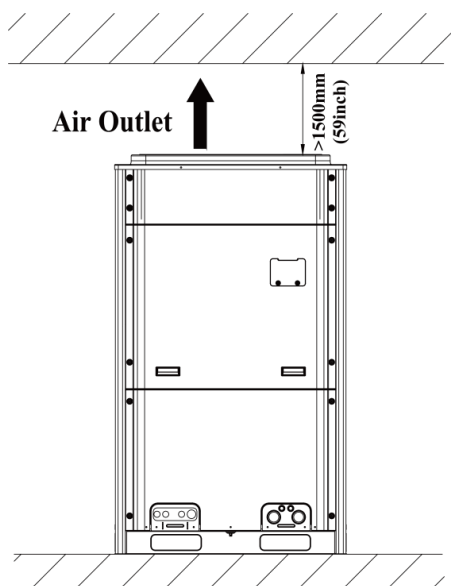

Fig.1
3.3.2 When there is wall (or similar obstruction) above the unit, keep the distance between the unit top and the wall at least 3000mm(118-1/8inch) or above. When the unit is located in a totally open space with no obstructions in four directions, keep the distance between the unit top and wall at least 1500mm (59inch) or above (See Fig.1). When space is limited within 1500mm (59inch) or the unit is not set in an open space, air return pipe is required to be installed in order to keep good ventilation (See Fig.2).